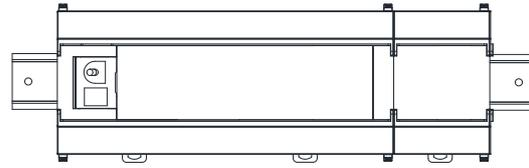

Fig 2-1 Installation diagram
*Checking carefully that the DIN snap-fit is tightly fixed to the DIN rail, as shown in Figure 2-1.